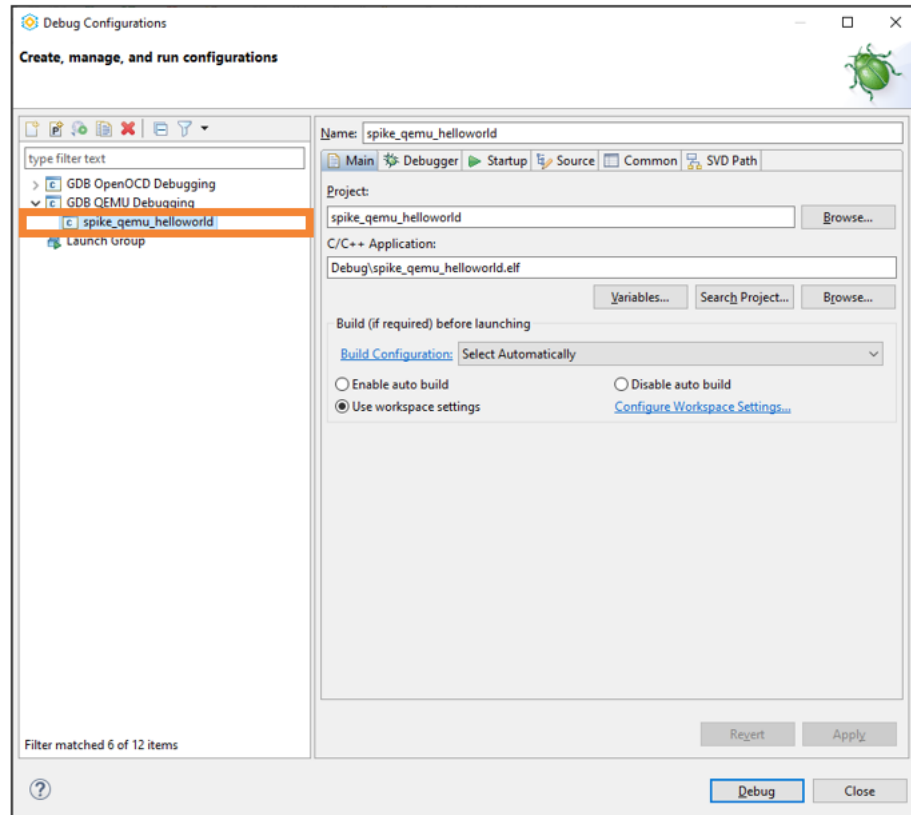

Figure 8.3. Debug Configurations Dialog 4
2. Choose spike_qemu_helloworld in **GDB QEMU Debugging** (Figure 8.3).